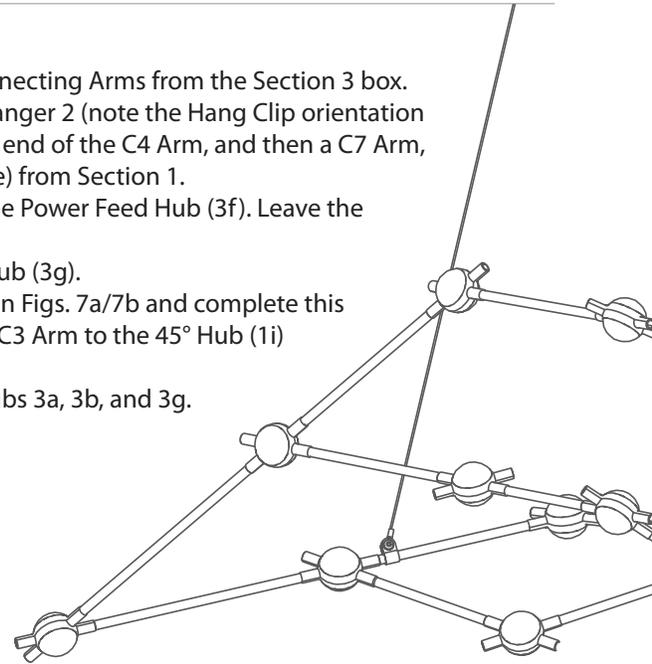

Fig. 7a - Front View
- Continue by connecting Arms and 45° Hubs following the order and pattern in Figs. 7a/7b and complete this section by connecting the C11 Arm to the 45° Hub (2e) from Section 2 and a C3 Arm to the 45° Hub (1i) from Section 1.